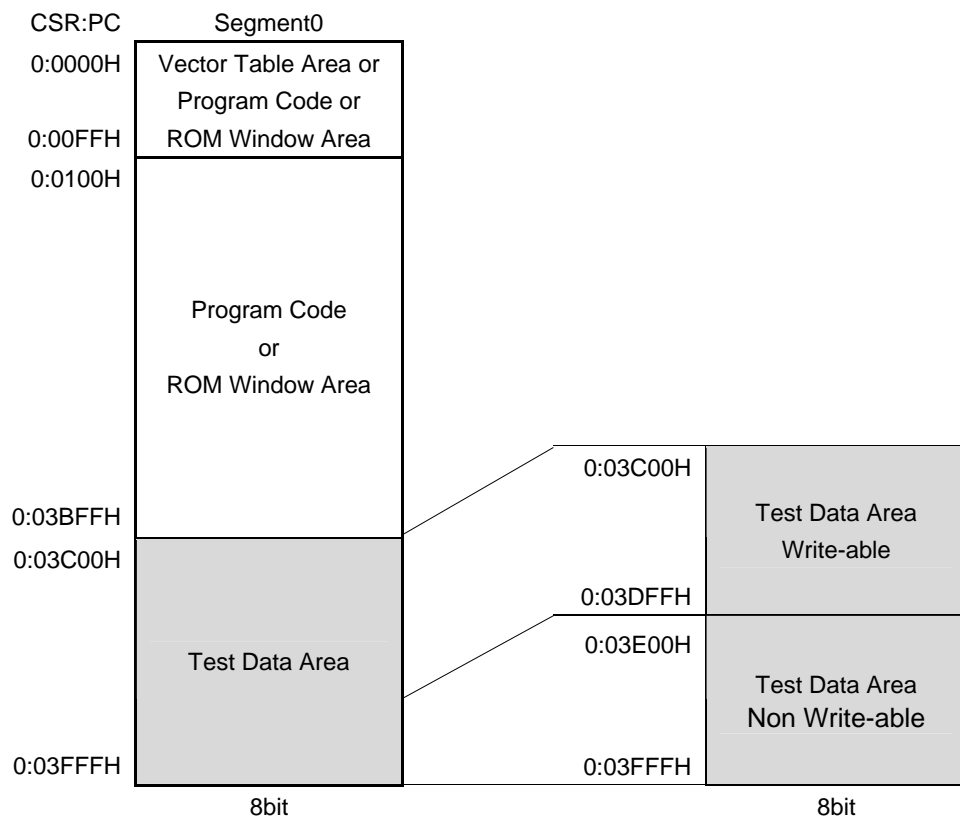

Figure 2-1 Configuration of Program Memory Space
The program memory space is used to store program codes, table data (ROM window), or vector tables. The program codes have a length of 16 bits and are specified by a 16-bit program counter (PC). The ROM window area data has a length of 8 bits and can be used as table data. The vector table, which has 16-bit long data, can be used as reset vectors, hardware interrupt vectors, and software interrupt vectors. The program memory space consists of 1 segments and has 16-Kbyte (8-Kword) capacity. Figure 2-1 shows the configuration of the program memory space.